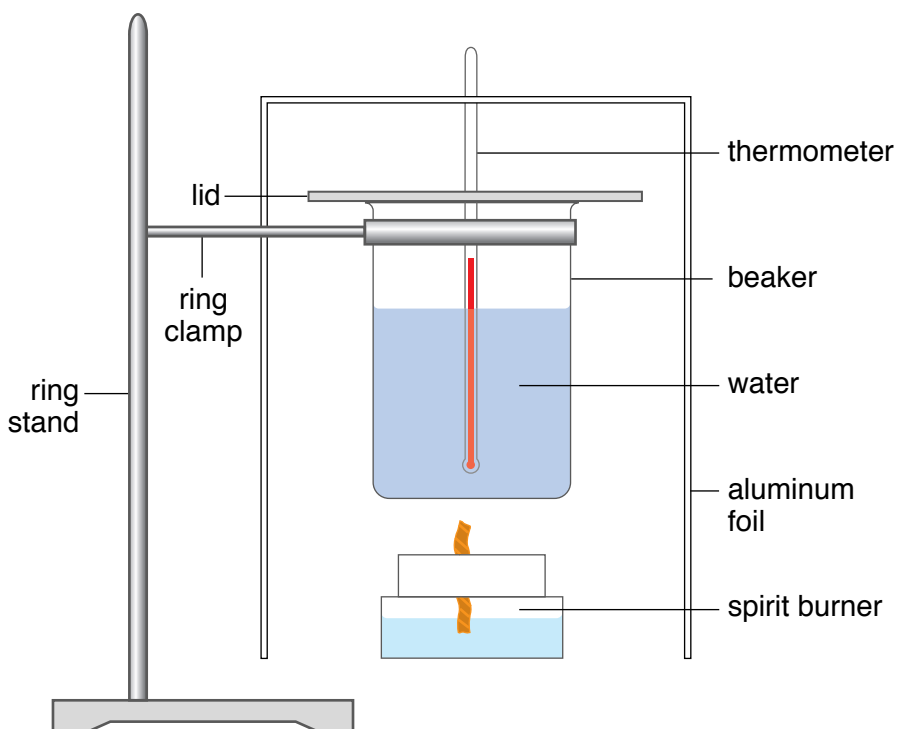

Figure 1
4. Set up a ring clamp on the ring stand. Place the beaker with lid and thermometer into the ring (see Figure 1).